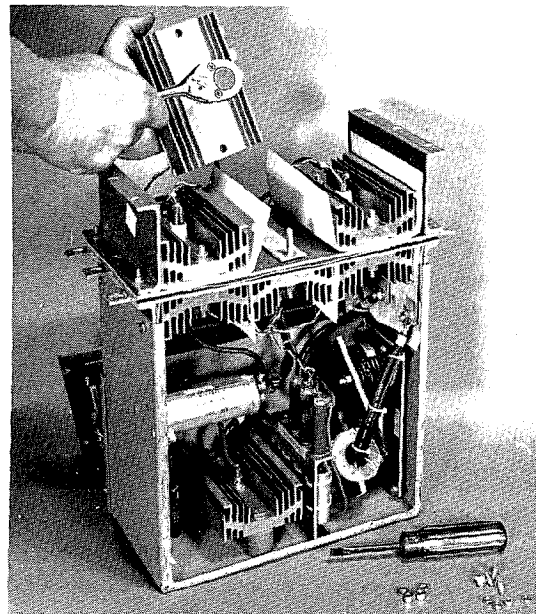

FIGURE 19
4. Remove four (4) machine screws and nuts that secure the front, red, plastic insulation cover to the converter module.
6. Remove the two (2) nuts that secure the defective SCR heatsink to the DC bus (P1 or N1).
8. Remove the stud mounted SCR from its heatsink. It is secured with a nut and lock washer. See Figure 19.